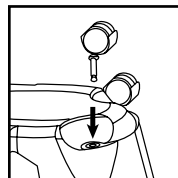

FIGURE 7
10. Insert casters into bottom of tank by placing stem of casters into holes provided. Apply pressure and twisting motion until casters snap into place. **FIGURE 7.**